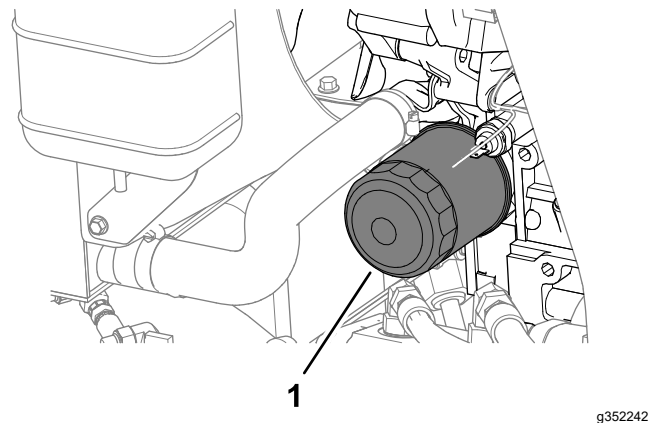

Figure 74
4. Remove the oil filter (Figure 74).